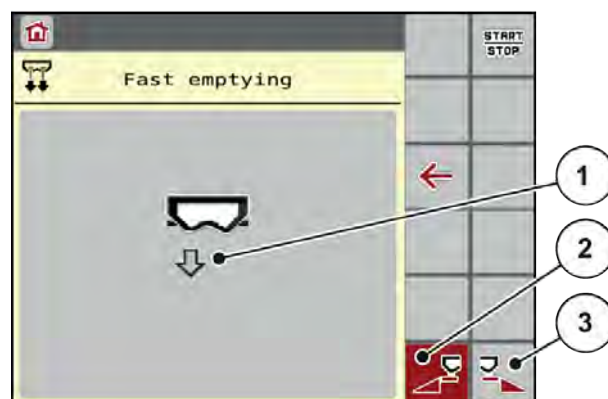

Fig. 17: Fast emptying - Fast emptying menu
*The selected section is displayed as an icon (Fig. 17 position [3]).*